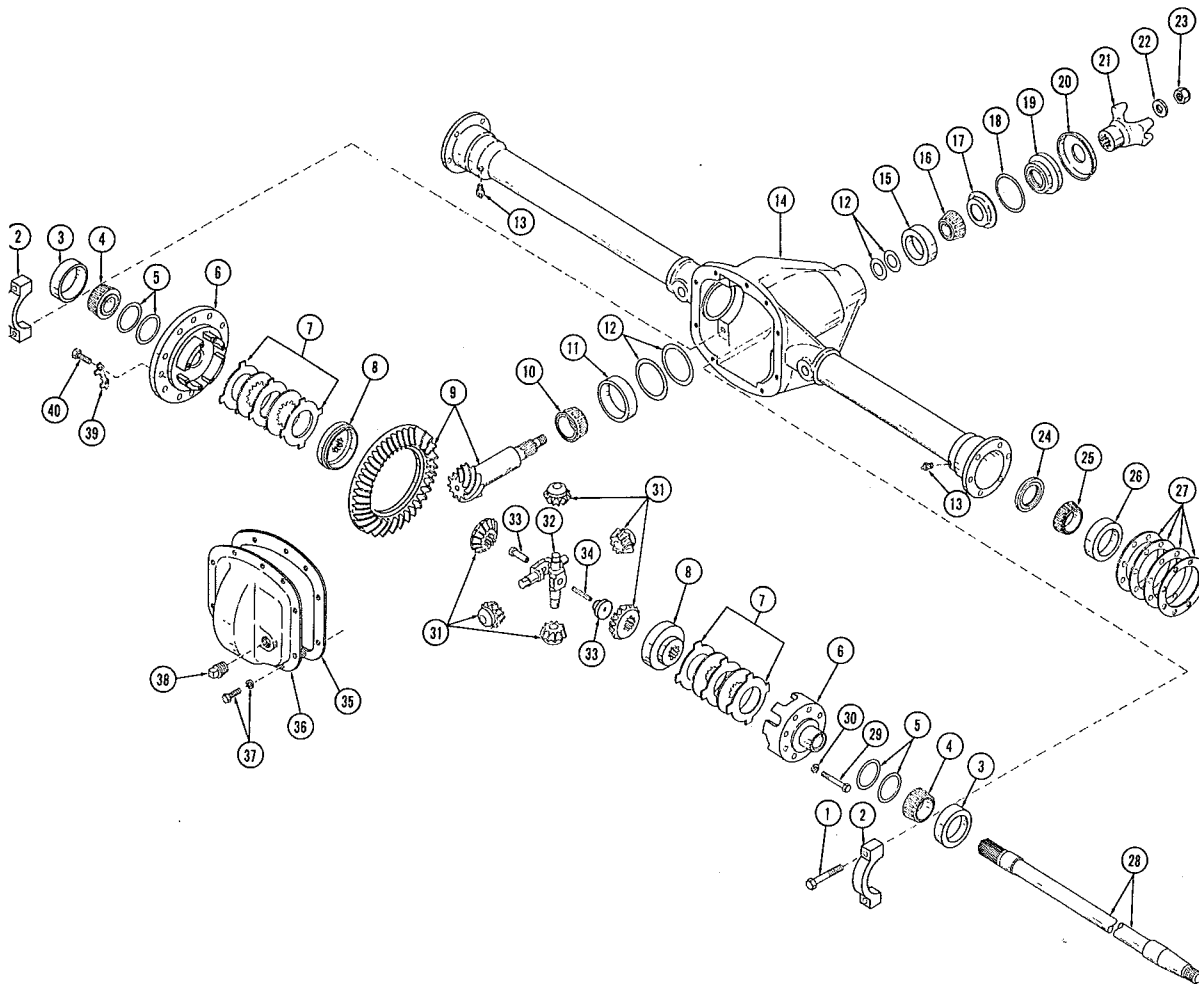

FIG. 138—REAR AXLE, EXPLODED VIEW
NOTE: Whenever an axle differential is inspected, see if the ring gear lock straps (39, Fig. 138) are present. These straps should be installed on those axles without them.
Numbers in parentheses refer to Fig. 138.
To remove the differential case bearings (4, Fig. 138) and pinion bearings (10) and (16), use Bearing Puller W-104-A as shown in Fig. 143.